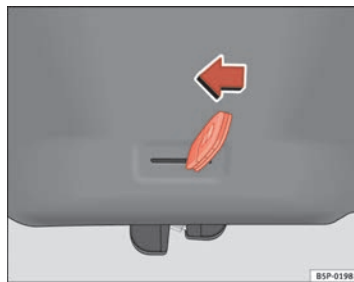

Fig. 66 Tailgate: emergency open
- Insert the key in the groove and unlock the locking system, turning the key from right to left, as shown by the arrow ⇒ fig. 66. ■